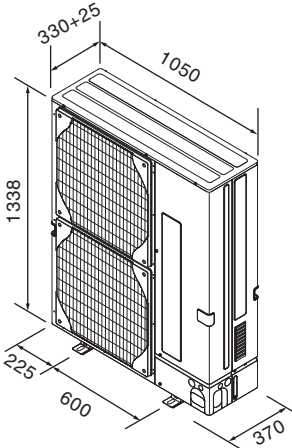

Fig. 4-2
9.4.3. Outline dimensions (Outdoor unit) (Fig. 4-2)